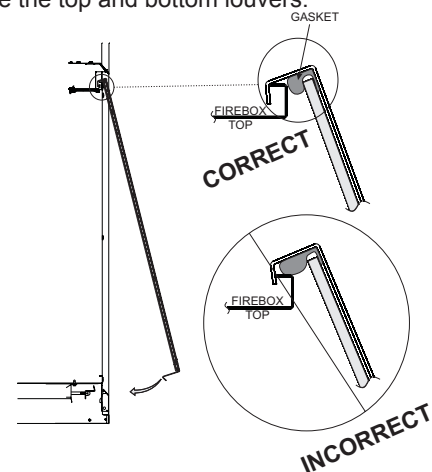

Figure 99
1. When installing the Glass Door assembly, make sure that the door top flange is hooked over the firebox top flange as illustrated in the "Correct" view in Figure 99.
**Important: Do not allow the gasket across the top of the door to roll up on top of the firebox flange as shown in "Incorrect" view in Figure 99.**